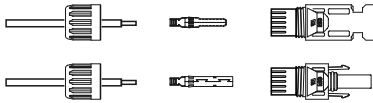

Figure 5.13 Disassemble the connector cap nut
1. Strip off the DC wire for about 7mm, disassemble the connector cap nut. (see figure 5.13)